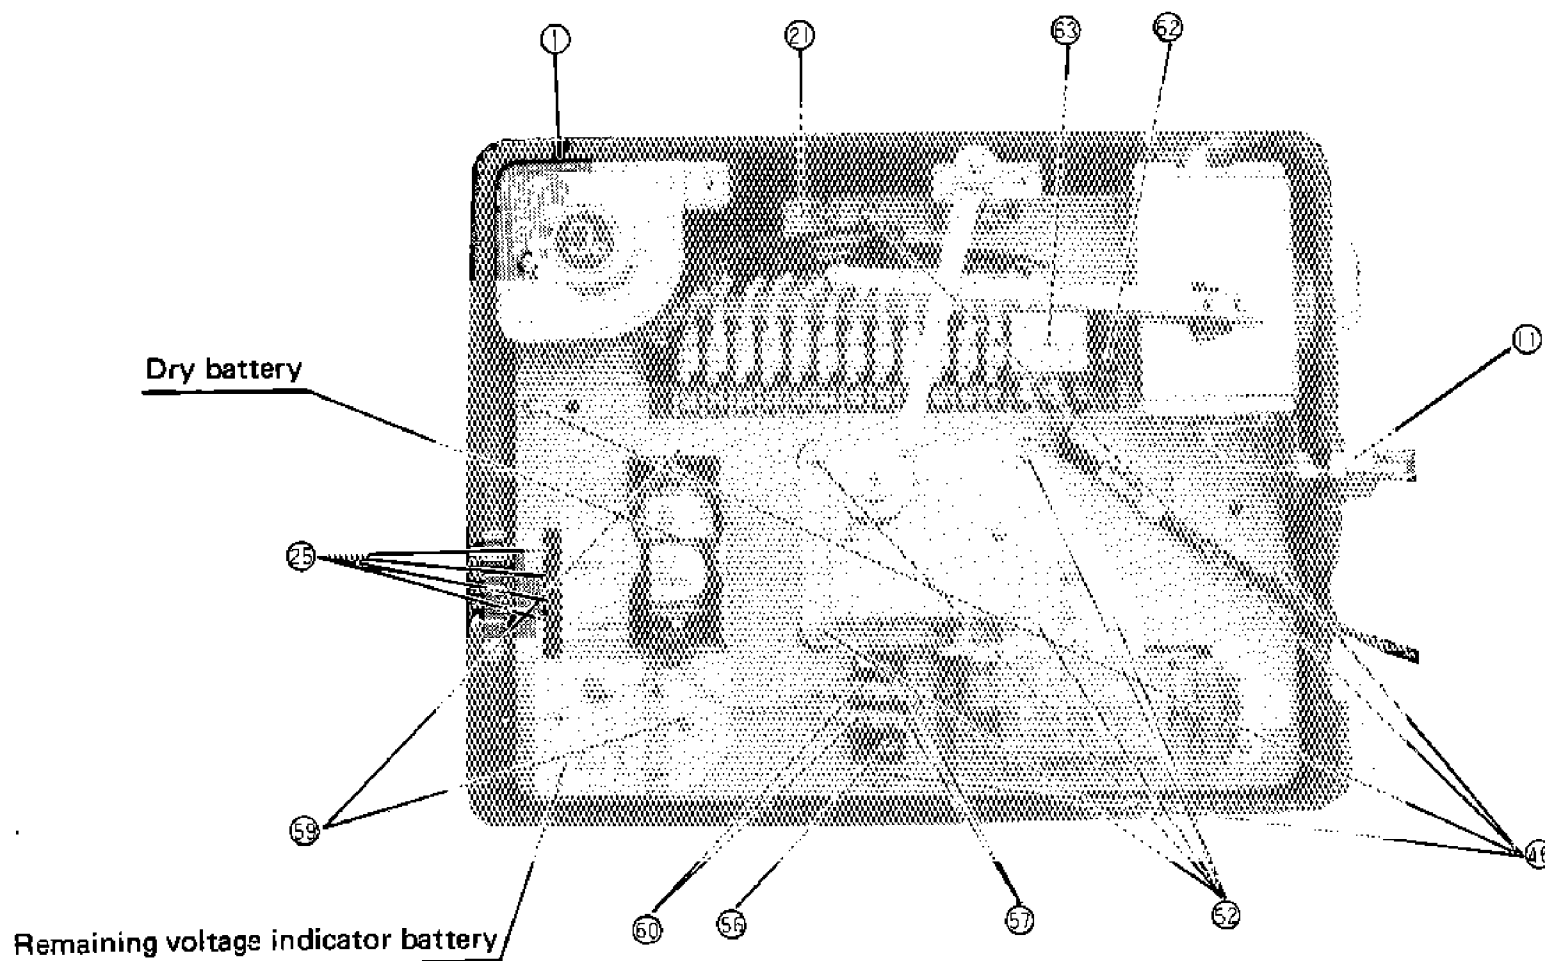
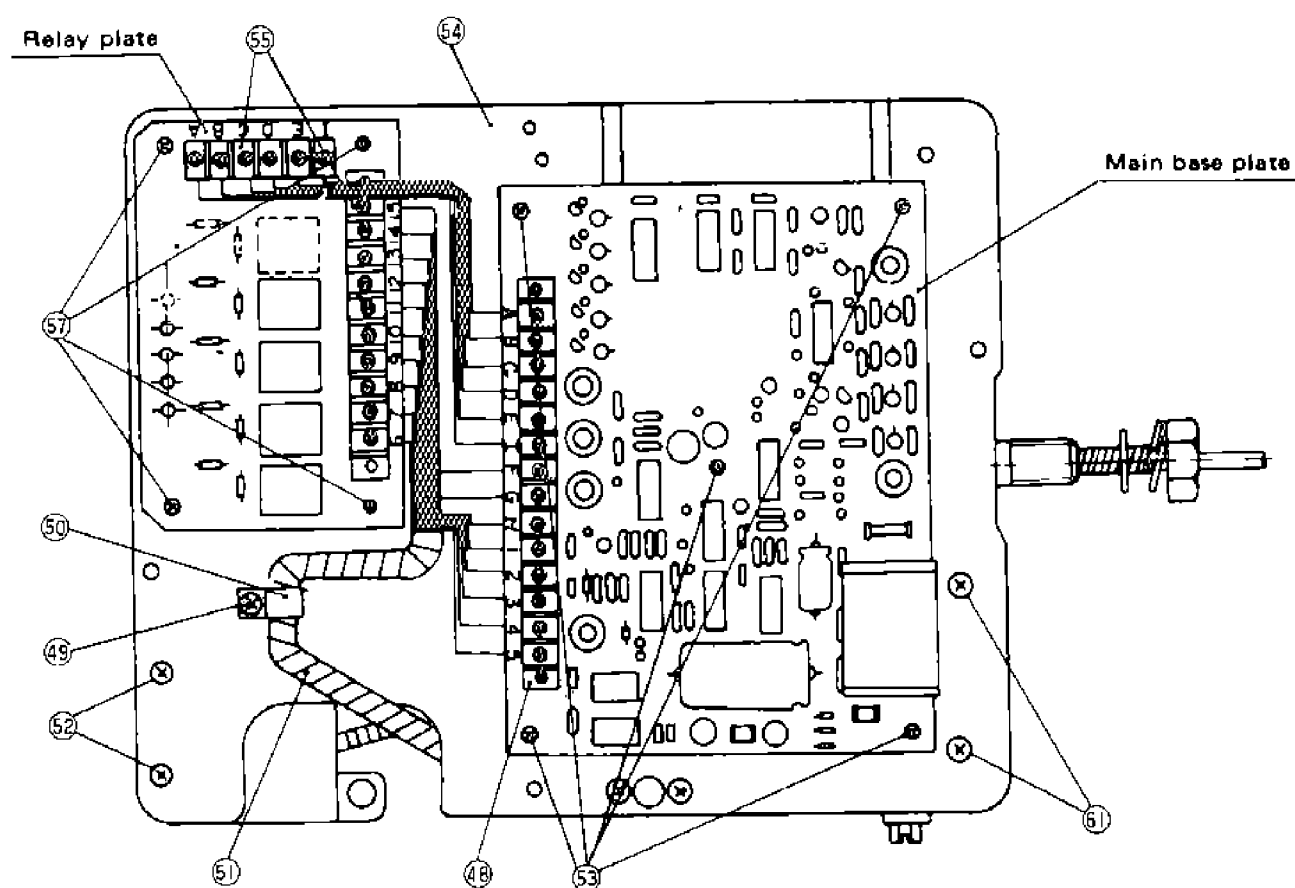

Fig. 3 Internal structure
Fig. 4 Internal device assembly
- (1) Remove the recording plate from the body (1) (See Article b.2.④) When it is removed, it looks as shown in Fig. 3. In this state, sensor, timer, remaining voltage indicator and battery and dry battery are replaced.
- (2) Remove the internal device assembly. Loosen four hexagonal nuts (11) and screws (46) and remove the internal device assembly from the main body (1) and turn it back. Then it looks as shown in Fig. 4.
- Adjust the volume setter as shown in Fig. 4 in accordance with Article d.1.
- Remove the lead wires (3 pcs, F. G. H.) which are laid from the volume setter from the terminal (48) (14P) on the terminal strip of the main base plate and measure resistance between G and H of the lead wires.
- From the state of the volume setter as shown in Fig. 4, loosen screw (49), remove power source plug (50), remove the spiral tube (51) from the wires. Then remove two screw bolts (52) and the volume setter can be removed from the base (54).
- After replacing the volume setter with a new one, inspect and adjust it in accordance with Articles c.1. ① and c.1. ②
② Main base plate
(1) Replacing standards
- In case the volume setter shows the phenomena as stated in Article d.2. ① Replacing standards and yet it has no trouble or the same phenomena take place after replacing the volume setter.
(2) Replacing points
- Remove the wires (14 pcs Nos A ~ H, 1 ~ 5) from the terminal strip (48) on the main base plate.
- Remove 5 screws (53) to remove the base (54) from the main base plate, so replace it with new one.
③ Relay base
- Adjust it as shown in Fig. 4 in accordance with Article d.1.
- Remove the wires (16 pcs No. A ~ E, I, 6 ~ 15) from the terminal strip (55) on the relay base plate.
- Loosen four screws (57), and the relay base plate can be removed from the base (54). So replace the relay base plate with a new one.
- In case the pilot lamps for functioning temperature (25) remain unlit although the power source is turned on.
- Remove the recording board, (state shown in Fig. 3). Loosen the screws (62) to remove protection board for impressed voltage (63) loosen terminal screws (Nos. 1 to 3) on the terminal strip (21) and remove the wiring. Then, measure temperature of the feeler part and resistance of the sensor and compare them with the characteristics of temperature resistance shown in Fig. 10, and if they do not accord with them, replace the sensor. If they accord, the main base plate or the volume setter is out of order. So replace it in accordance with Articles d.2. ① and d.2. ②
- Replace the recording board, and insert a battery so as not make a mistake in polarity as in the state of Fig. 3 (Fig. 3 shows polarity of a battery). It is advisable to use a battery similar to SUM-2 of JIS C8501 and R14 of IEC. (Dry battery DC1.5V)
- Remove the recording board (state shown in Fig. 3). Loosen two screw bolts (59) and two screw bolts (60), and the remaining voltage indicator battery can be removed from the indicator body. So replace it with a new battery.
- When replacing, connect the wires to the terminal strip (53) in a way red wire to red and black wire to black.
③ **Timer (Quartz motor reducing gears)**
- Although remaining voltage of dry battery is correct (confirmed in accordance with Article b.2. ③) the quartz motor does not start.
(2) Replacing method
- Remove the recording board (state shown in Fig. 3). Loosen two screw bolts (57) from the terminal strip (56) to remove the wires. Then remove five screw bolts (58) to replace the timer with a new one.
- When replacing the timer, replace the attached vibration isolators (5 pcs) at the same time. The red wires are for + current and the black wires – current. Connect the wires to the terminal strip (56) in a way that red wires are connected to red and the black wires to black. Tightening torque for vibration rubber is 4 ~ 5 kg-cm.
④ **Feeler tube – element**
- After having adjusted the recording part in accordance with Article c.2. ②, operate the unit with temperature setting within  $-18 \sim +10^{\circ}\text{C}$  ( $-0.4 \sim 50^{\circ}\text{F}$ ). If temperature indication differs from temperature setting by over  $2^{\circ}\text{C}$  ( $4^{\circ}\text{F}$ ) although inside temperature becomes stable to its temperature setting. (In case temperature indication is minus far from feeler tube temperature, gas may leak from the feeler tube)
- Take out the internal assembly as stated in Article d.1. and turn it inside out, which is shown in Fig. 4.
- Loosen two screw bolts (61) to remove the feeler tube – element and replace it with new one.